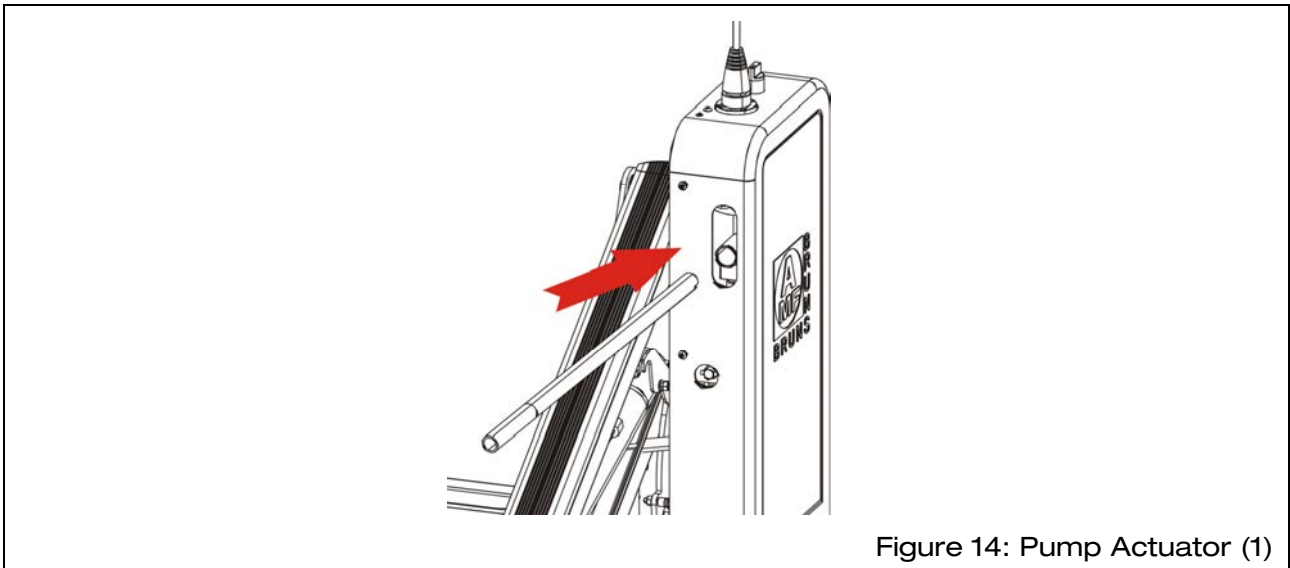

Figure 14: Pump Actuator (1)
- ⇒ Insert the operating lever into the pump actuator on the hydraulic system (see Figure 14).